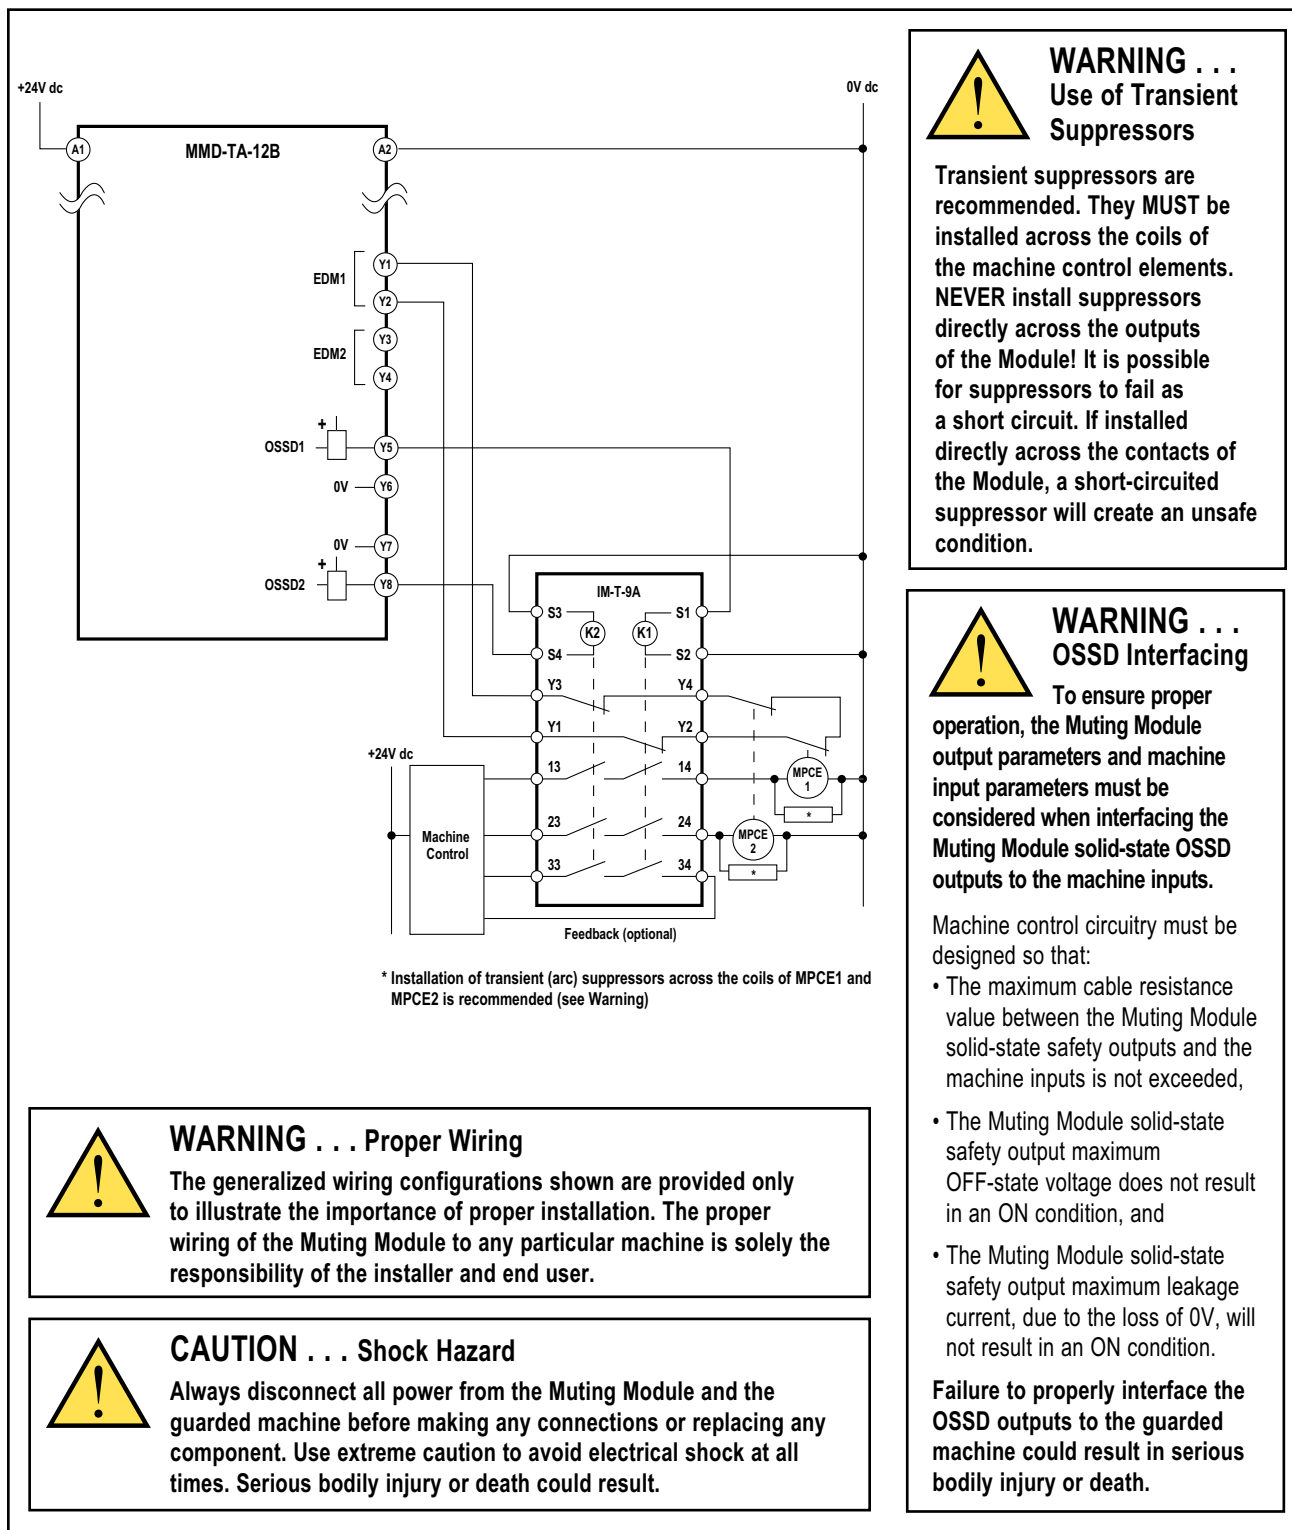

Figure 3-26. Generic machine interface hookup, model MMD-TA-12B: interface module with one-channel EDM
- One-Channel Monitoring — SW4 Banks A and B = ON or 1 CH (see Figures 3-26 and 3-28). NOTE: EDM #2 input must be left open.